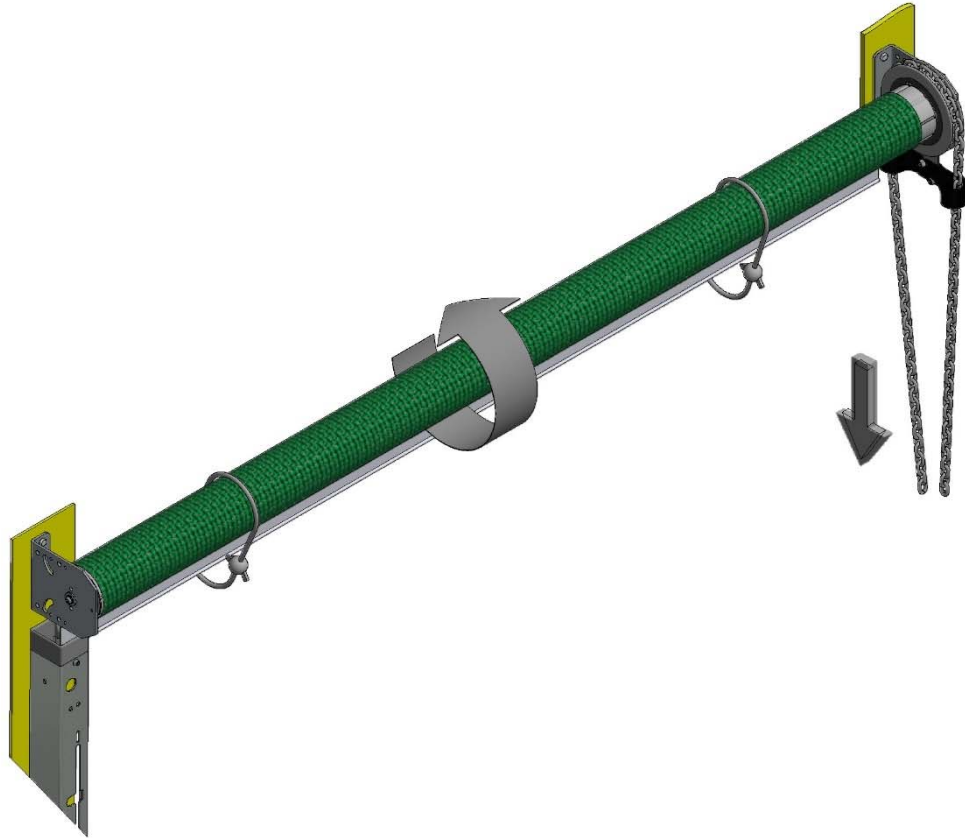

Figure 15, Tensioning of Spring
12. Pre-tension the spring mechanism by rotating the roller assembly in the direction shown in Figure 15, this is done by pulling down on the inner chain as shown. The number of pre-tension turns is given in the table below. When the required number of turns has been reached, lock the operating chain into the chain tensioner.